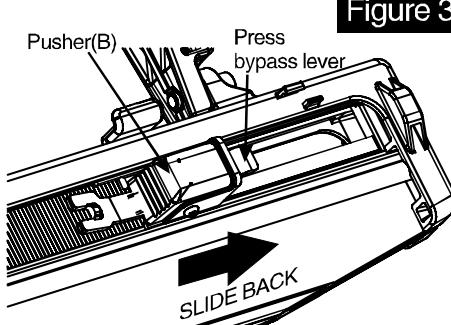

Figure 3
3. This tool uses a spring loaded bypass lever in order to load and upload the nails. Once the nails are properly inserted, pull the pusher(B) completely back, pressing against the bypass lever of the pusher.(See figure 3)